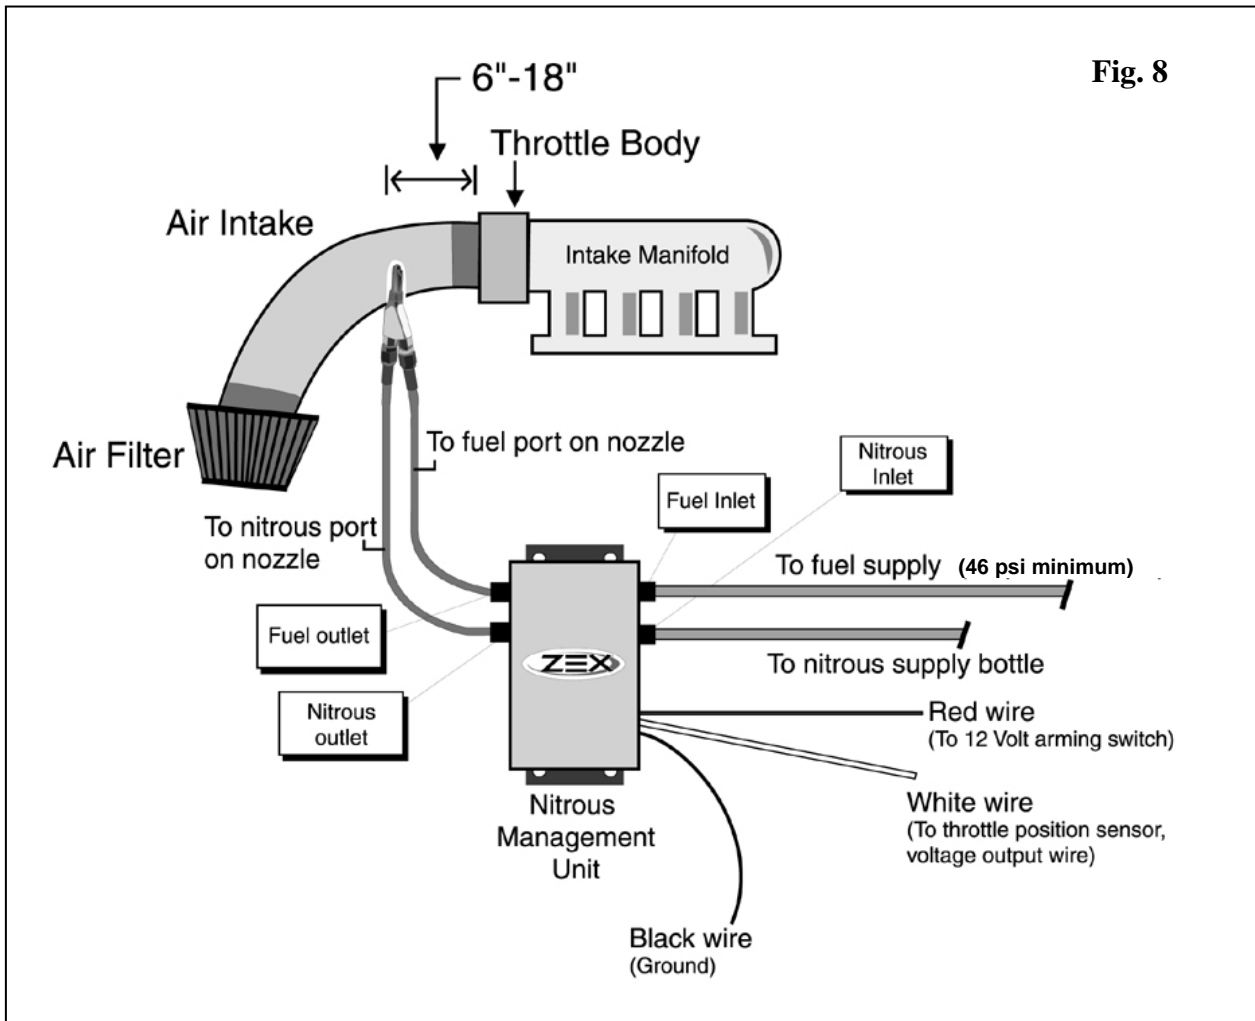

Fig. 8
5. Install nitrous nozzle. Optimum nozzle placement is 6" to 18" from the throttle body; refer to Fig. 8 for the ideal nozzle location. This range of distance gives the nitrous, fuel, and air, the proper time to mix before it enters the intake manifold plenum. Remember, nitrous nozzles must always be mounted after the mass airflow sensor, never before them. After you have determined where to mount the nitrous nozzle (Fig. 6) in the intake, make sure this location won't interfere with other components. After you've found the spot, mark it and remove the air inlet duct from your engine. Drill a 9/16 inch mounting hole and install the bulk head fitting. Be sure to remove any drill shavings since they can severely damage your engine if injected. Install the nitrous nozzle so that the spray is in the direction of airflow. We've also enclosed a tap (Fig. 6) should you desire to mount the nozzle directly into a metal air intake tube. Just drill an 11/32 inch hole where you want to thread-in the nozzle, tap the hole and install the nozzle. Once installed, place the appropriate tuning jets in the nozzle and attach the 2-foot long, -3AN hoses to the nozzle jet fittings and the Nitrous Management Unit (Fig.5).
Connect one end of the TPS Resistor Wire to the vehicle's TPS voltage output wire. The correct TPS wire should have around .5 volts when the throttle blade is closed and around 4.5 volts when the throttle is opened fully. These are not exact voltage numbers, but simply give you an idea of the proper voltage you should be seeing. Connect the other end of the TPS resistor wire to the white wire from the Nitrous Management Unit. After these connections are completed, you need to install the arming switch/wire harness assembly. Find a suitable place in the interior of the vehicle for the arming switch and drill a 1/2 inch (.500) hole. Mount the switch and switch cover through this hole. Take the lead that the fuse assembly is attached to and find a suitable 12 volt accessory source of power under the dash. Use the T-tap electrical connector to splice into the 12 volt accessory wire and plug in the wire harness lead. Take the other lead from the arming switch and connect it to the red wire from the Nitrous Management Unit. As a reference for wire locations, use Fig. 8.